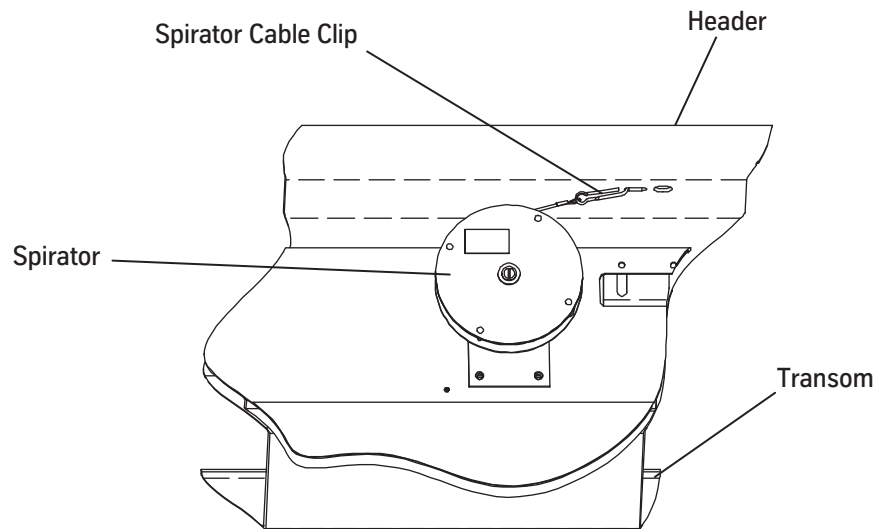

Figure 40 - Spirator
2. Use the spirator cable clip to attach the cable to the header. See Figure 40.